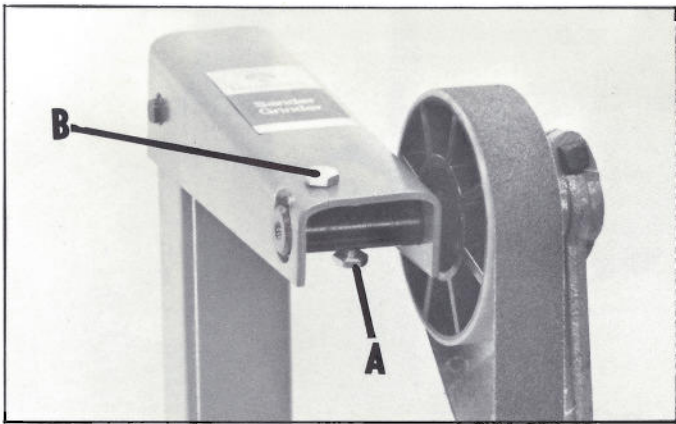

Fig. 15
3. If the Abrasive Belt has to be tracked to the right, loosen cap screw (A) Fig. 15, and tighten cap screw (B). If the Abrasive Belt is to be tracked to the left, reverse this procedure. CAUTION: THIS ADJUSTMENT IS USUALLY VERY SLIGHT.